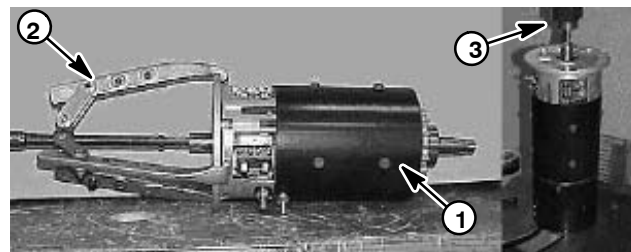

Figure 58
3. Use an arbor press or a bearing puller to remove the armature from the commutator end head and frame and field assembly (Fig. 58).
4. Remove four (4) bolts that secure the commutator end head to the frame and field assembly. Remove commutator end head from frame and field assembly.